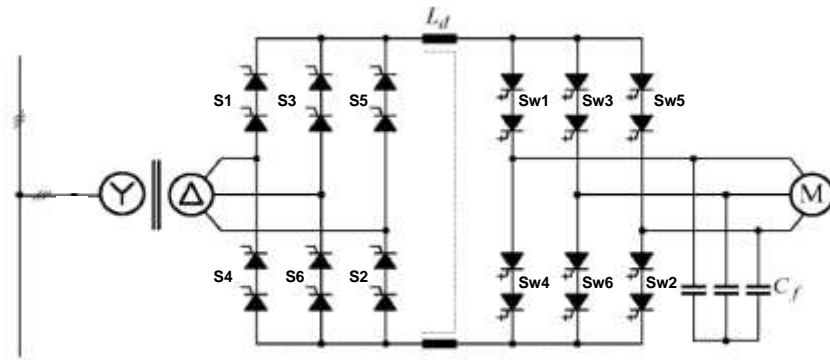
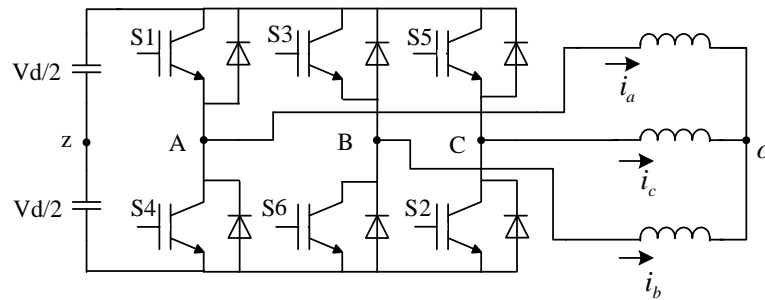

Figure 3.1 Current Source Inverter CSI-fed induction motor drive
Figure 4.1 Two-level voltage source inverter
3. a. The Current Source Inverter CSI-fed induction motor drive shown in figure 3.1 is connected through 6-pulse SCR rectifier as a front end to the utility grid. The line-to-line voltage at the rectifier input terminals $V_{ll_{rms}}$ is 2.3kV, 50Hz (rms value). The line inductances are assumed to be zero. The dc choke L_d is sufficiently high such that the dc current is ripple-free. The losses in the system are neglected. Through the feedback control the magnitude of the dc link current is kept at a value set by its reference of 148A. The CSI is modulated by Trapezoidal Pulse Width Modulation TPWM. Show with reference to appropriate voltage waveforms that the average value of the dc-link voltage is given by
- b. With reference to suitable voltage and current waveforms determine the switching sequence and switching frequency of the SCR devices of the 6-pulse rectifier shown in figure 3.1. (6)
- c. With reference to suitable circuit diagrams explain the switching constraints of the three-phase Current-Source Inverter. Propose a practical protection solution in case of short circuit at the inverter output terminals. (6)
4. a. Explain the operation of the six-step inverter shown in figure 4.1 by means of the gate-drive signals, switching sequence, switching commutations and switching frequency for one fundamental period of the output voltage.
- b. A six-step voltage source inverter shown in figure 4.1 supplies a 460V (rms line-to-line value), 60Hz induction motor. With reference to suitable voltage waveforms and the general Fourier series expression show that the amplitude of the fundamental output line-to-line voltage of the six-step inverter is given by: